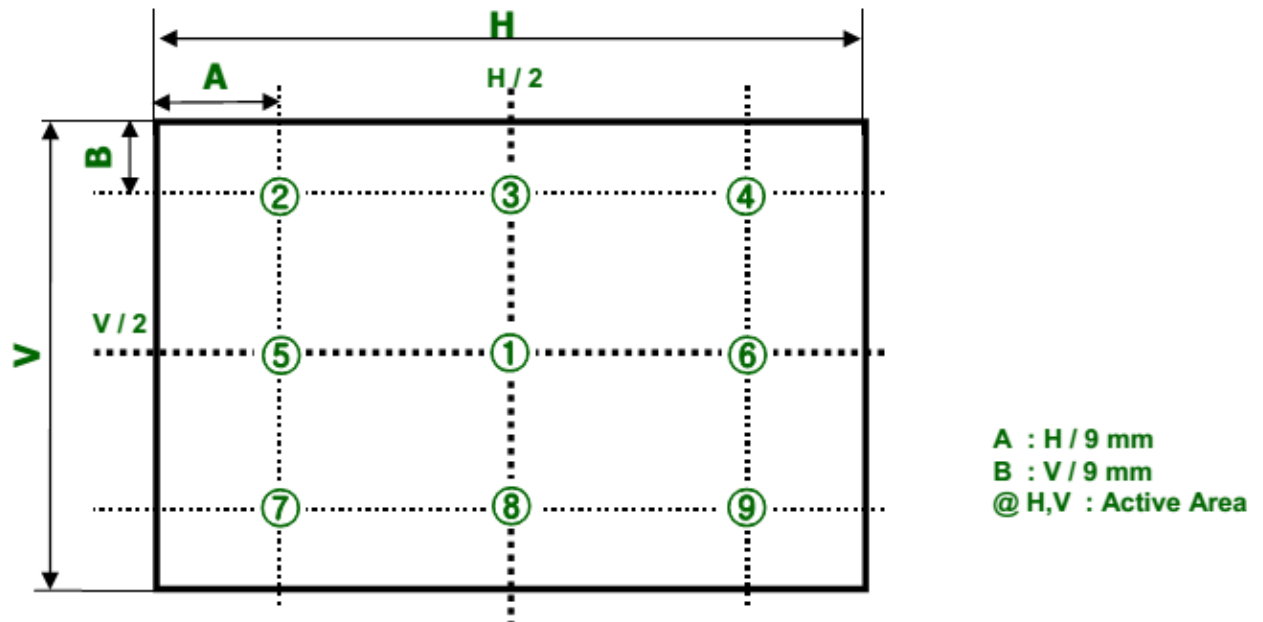

FIG . 2
2. Surface luminance is determined after the unit has been 'ON' and 1 Hour after lighting the backlight in a dark environment at $25 \pm 2^\circ\text{C}$. Surface luminance is the luminance value at center 1-point across the LCD surface 50cm from the surface with all pixels displaying white. For more information see the FIG. 2
3. The variation in surface luminance, WHITE is defined as : $\text{WHITE}(9P) = \text{Minimum}(\text{Lon1}, \text{Lon2} \sim \text{Lon8}, \text{Lon9}) / \text{Maximum}(\text{Lon1}, \text{Lon2} \sim \text{Lon8}, \text{Lon9}) * 100$ Where Lon1 to Lon9 are the luminance with all pixels displaying white at 9 locations For more information, see the FIG. 2.